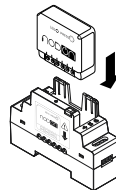

figure 1
- 3 Insert the relay switch on the DIN Rail Box while respecting the direction of insertion of the relay switch, the terminal block must be located on the left (see figure 1). Make sure the terminals are well unscrewed and take care to not fold the pins located inside the DIN Rail Box.